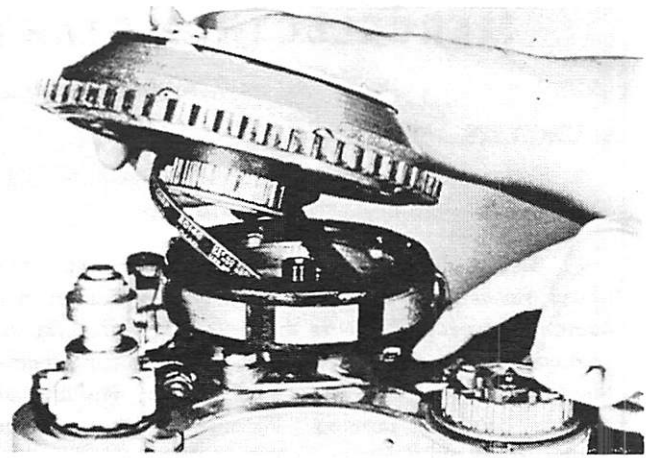

Figure 2. Replacing Timing Belt
3. Timing belt in position on flywheel pulley first, then driven pulley, while placing flywheel on crankshaft. (Figure 2)